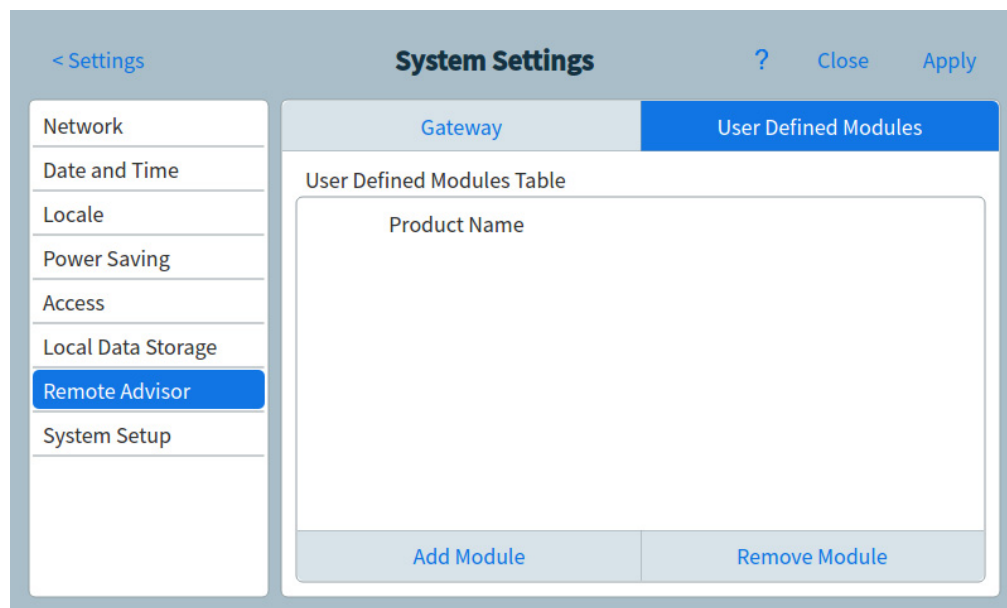

Figure 49 Remote Advisor page - User Defined Modules tab
- a Press the **User Defined Modules** tab. The **User Defined Modules** page appears. See Figure 49.